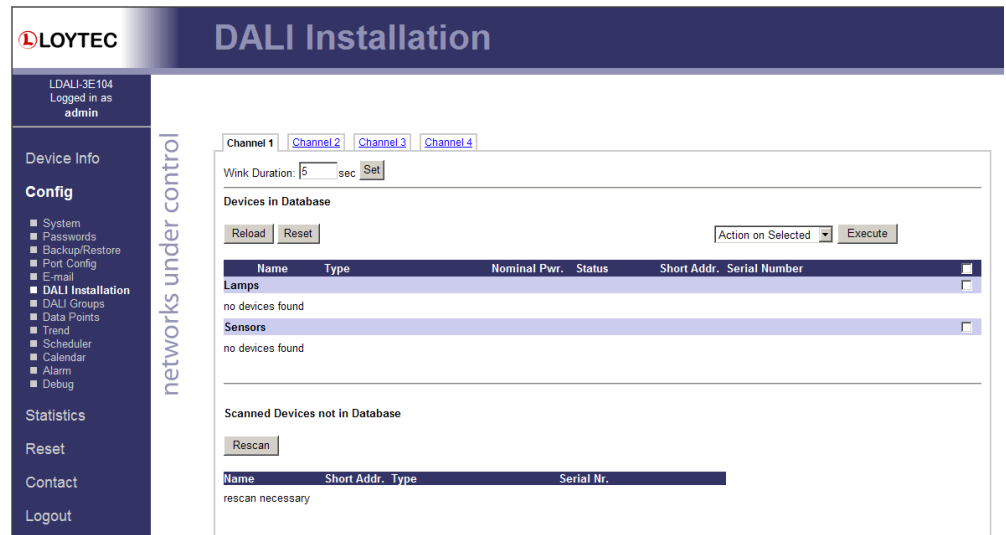

Figure 25: DALI Installation Web Interface: Initial View
2. The Config menu opens. Click on **DALI Installation** in the Config menu. The DALI installation page opens as shown in Figure 25.